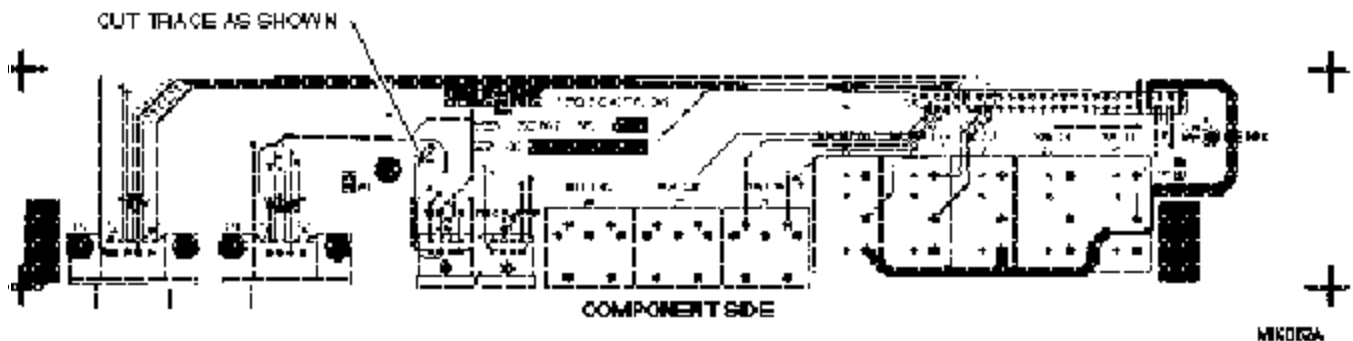

Figure 2. Cut Component Side Trace
5. For the J9 and J10 MAC connector modification, place the board component side up, with the connectors toward you. Use an exacto knife to cut the trace. (See Figure 2)